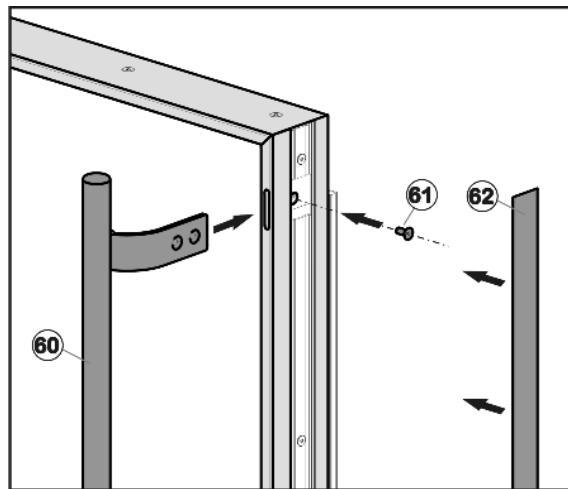

Fig. 54
- ▶ Push handles Fig. 54 (60) into the openings in the door and screw on Fig. 54 (61). Press cover trim Fig. 54 (62) into position.